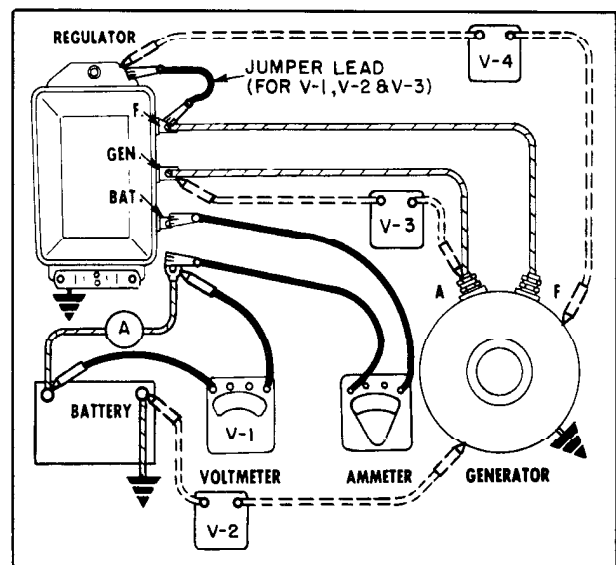

Fig. 13-9 Testing Voltage Drop (35 Ampere)
2. Connect an ammeter in series between the positive battery cable and the "BAT" terminal of the regulator. (Fig. 13-9)
4. Measure the voltage drops at V1, V2, and V3 as shown in Fig. 13-9. V1 plus V2 should not exceed 0.5 volt. V3 should not exceed 0.3 volt. Excessive readings indicate high resistance in the areas checked.
and accessories. Measure the voltage drop V4 as shown in Fig. 13-9. If this reading is more than 0.1 volt, excessive resistance is indicated in this portion of the circuit and can be due to a poor ground at the regulator or at the engine ground strap.